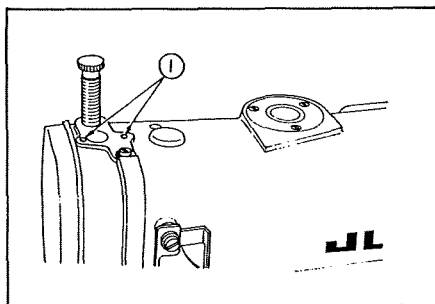

Fig. 2
- (1) Fill the oil reservoir with lubricating oil up to the level marked with "H", take an urethane foam sheet out of the accessory box and place it under the hook driving shaft saddles to absorb noise and dust.
- (2) Those machines which are operated for the first time after setting up or after a long period of disuse, you must apply 2 or 3 drops of oil through the oil holes ① as shown in Fig.2.